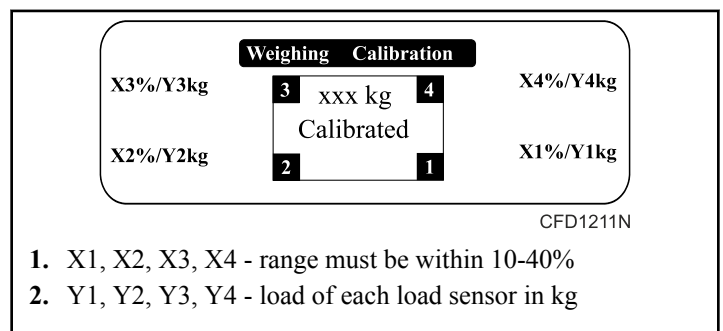

Figure 13
12. Check and, if necessary, adjust the height of the load sensor feet so that an even load distribution among all the load sensors is ensured. Refer to *Figure 13*.